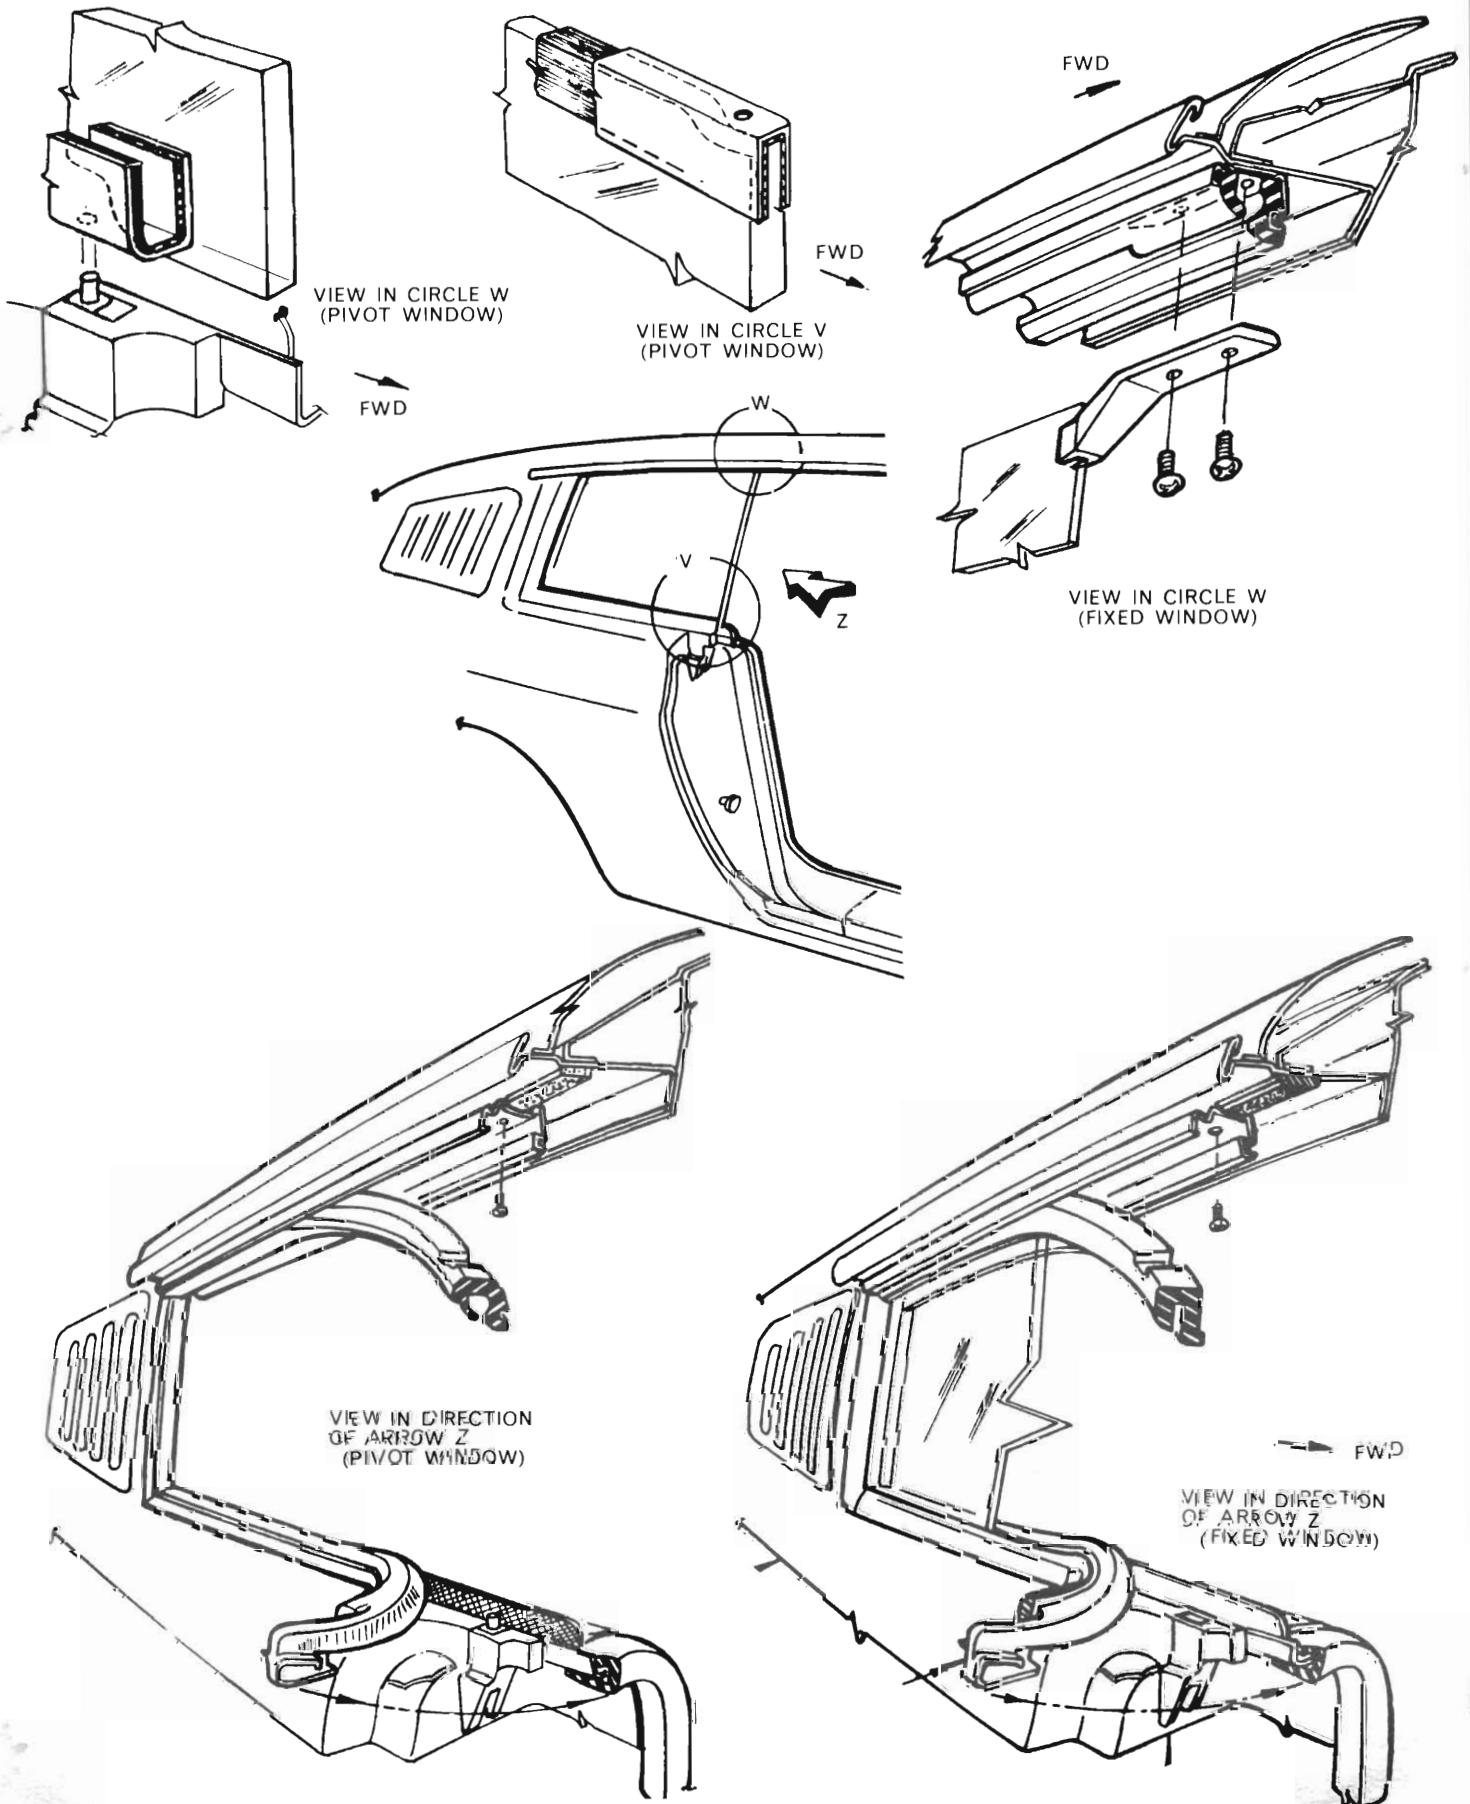

Fig. 13 - Charger Read Quarter Window (Hinged & Fixed)
**Rear Quarter Window Glass Hinged Two Door Coupe (Fig. 13)**
- (1) Remove the two glass hinge screws at the rear quarter end.
- (2) Remove the two screws from the glass upper pivot, the three screws from the glass lower pivot and remove the glass assembly complete.
- (3) To remove the handle from the glass, remove the circlip from the hinge pin.
- (4) When reinstallation of the glass assembly the elongated holes in the rear quarter end, where the hinge plate is located, allow correct positioning of the glass assembly to the window opening. (Refer Fig. 13).
**Rear Quarter Window Glass Fixed Two Door Coupe (Fig. 13)**
(1) With the front door open, remove the quarter glass stop located into the roof rail weatherstrip.
(2) Insert a fibre stick between the edge of the glass and weatherstrip (rear edge) and manoeuvre the glass out of the weatherstrip.